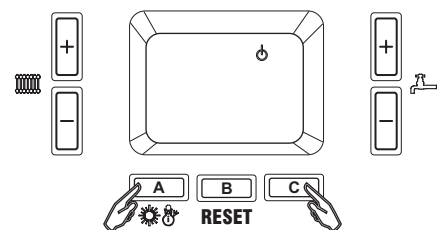

Fig. 5.7
**Stand-by mode** (🔌) - By pressing buttons 'A' and 'C' (as shown in Fig. 5.7) at the same time it is possible to place the boiler in the standby mode.